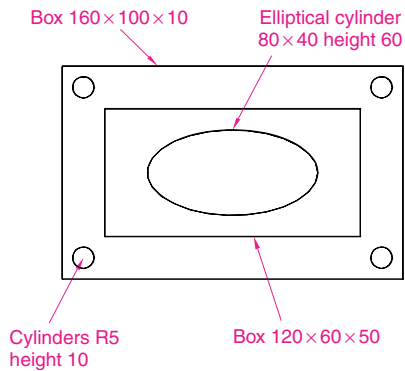

Fig. 13.26 Example – **Chamfer and Fillet** – the model before using the tools
1. Using the **Box** and **Cylinder** tools, construct the 3D model in Fig. 13.26.